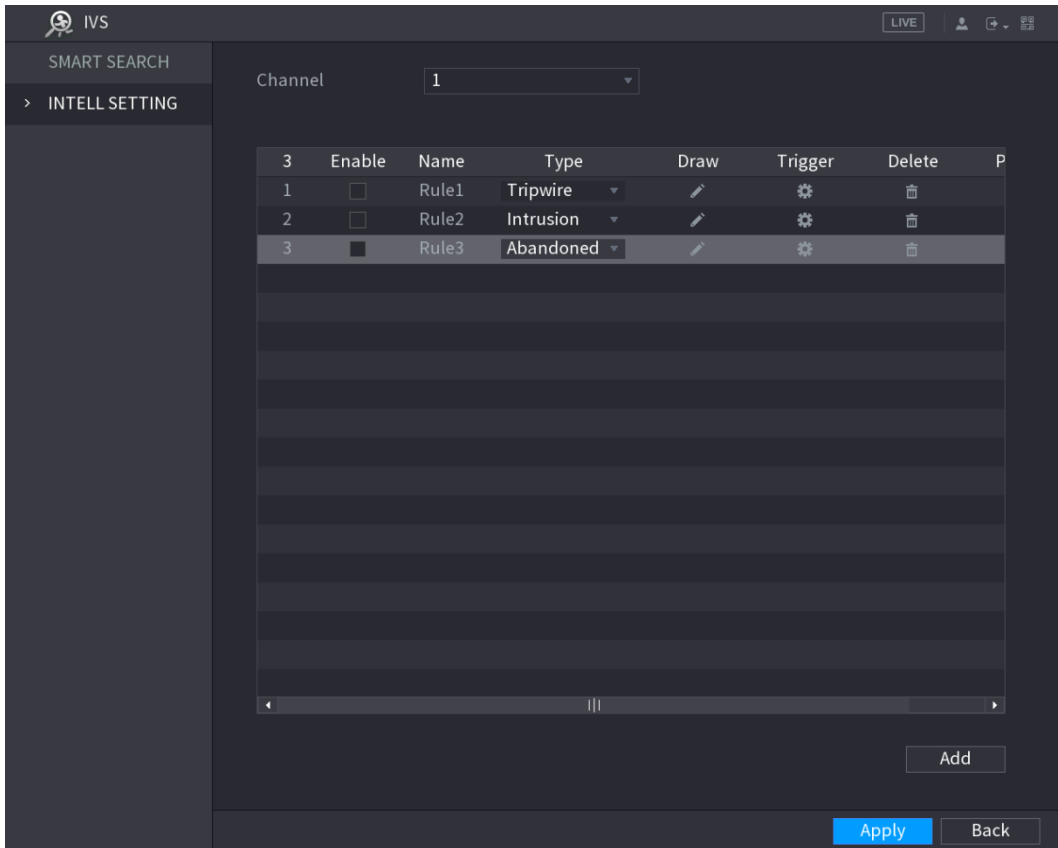

Figure 5-142
**Step 1** On the rule line that you added, in the **Type** list, select **Abandoned**. See Figure 5-142.